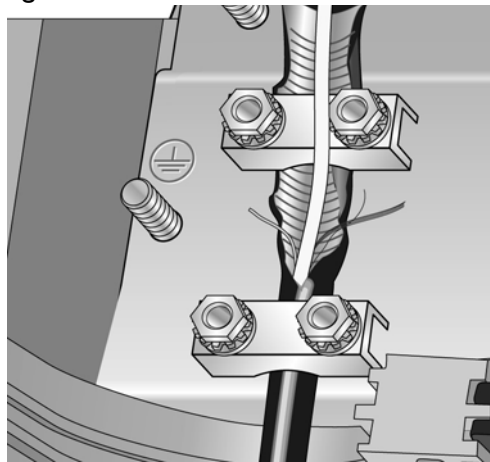

Figure 17. Armored Drop Cable Secured to the Grounding Plate
12. Replace the bar, washers, and Kepnuts on the posts of the drop cable clamp and tighten the Kepnuts to secure the cable, as shown in Figure 17, to between 10 and 12 in-lbs.